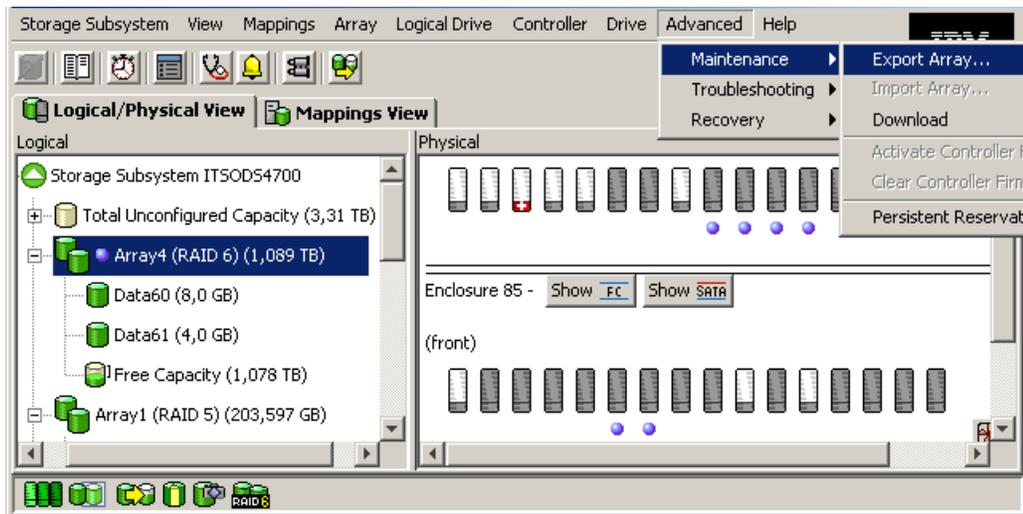

Figure 12-36 Exporting an array
2. Select **Advanced** → **Maintenance** → **Export array** from the Subsystem management window, as in Figure 12-36.